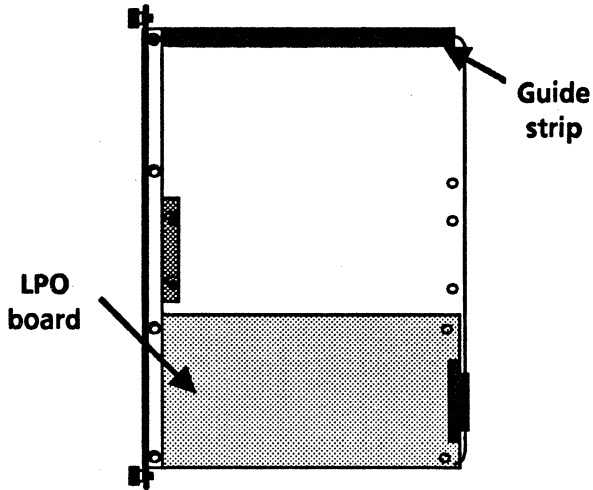

Figure 2-4 C5 shield with LPO board and guide strip
7. Unpack the new C5 shield with the LPO board already mounted. Remove the screws that hold the guide strip (Figure 2-4) in place and discard both the guide strip and the screws.